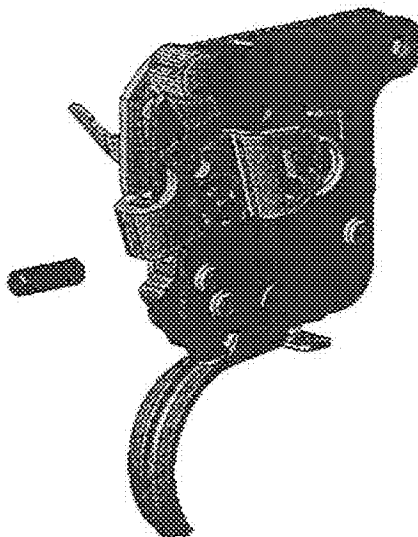

Figure 11
10. Install the safety retainer on the safety pivot pin. Orient the safety retainer so that the legs stick up away from the safety assembly as shown in Figure 11. Use hand assembly tool C-56220 to seat safety retainer. Make sure the all of retainer's legs are snapped into the groove in the safety pivot pin or the retainer can come off.
11. Insert the engagement screw into the rear hole of the trigger housing as shown in Figure 11. Use permanent Loctite (660) to secure the screw (DUCCO